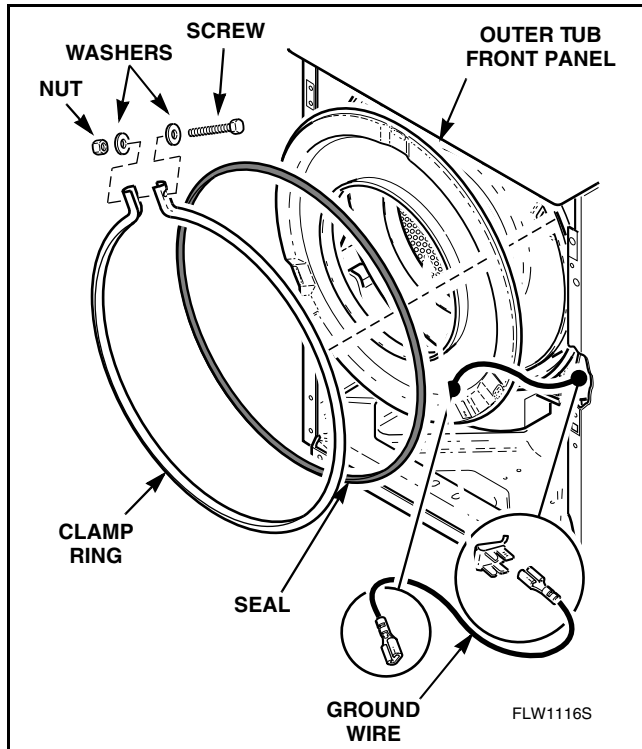

Figure 21
- n. Disconnect ground wire from outer tub front panel. Refer to Figure 21.
- o. Remove nut, washers and screw holding clamp ring to outer tub front panel. Refer to Figure 21.